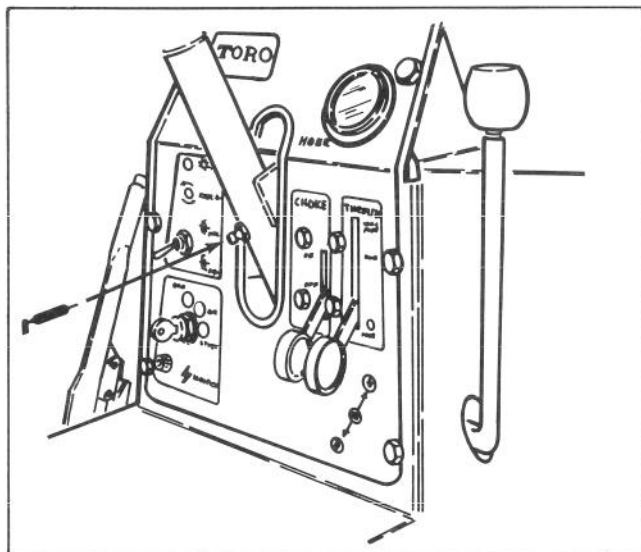
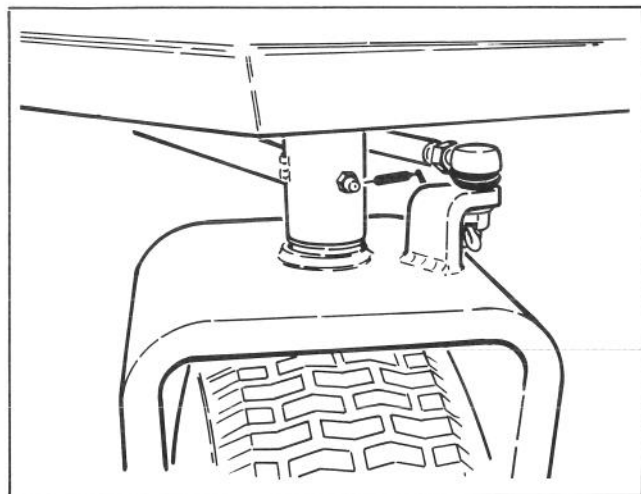
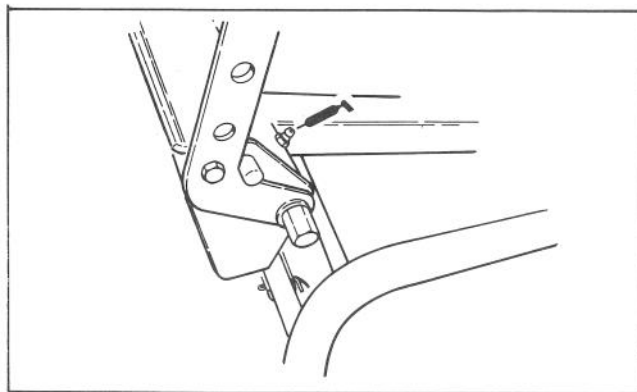
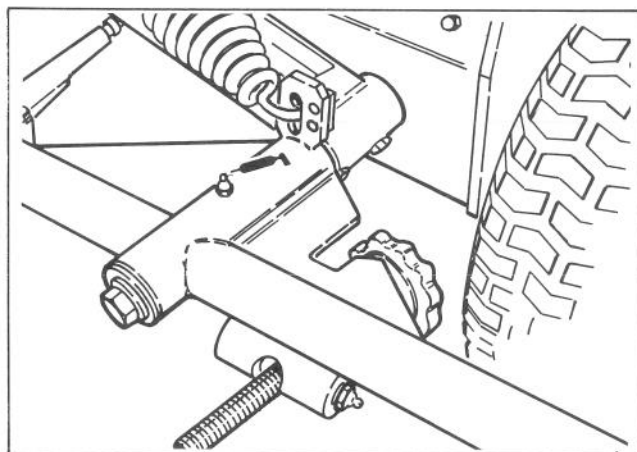

Figure 25
Figure 26
Figure 27
Figure 28
Steering column (Fig. 25), steering shaft (2), rear castor fork (Fig. 26), jackshaft pulley bearing (2), lift arms (3) (Fig. 27) rear axle, and pivot rods (3) (Fig. 28).